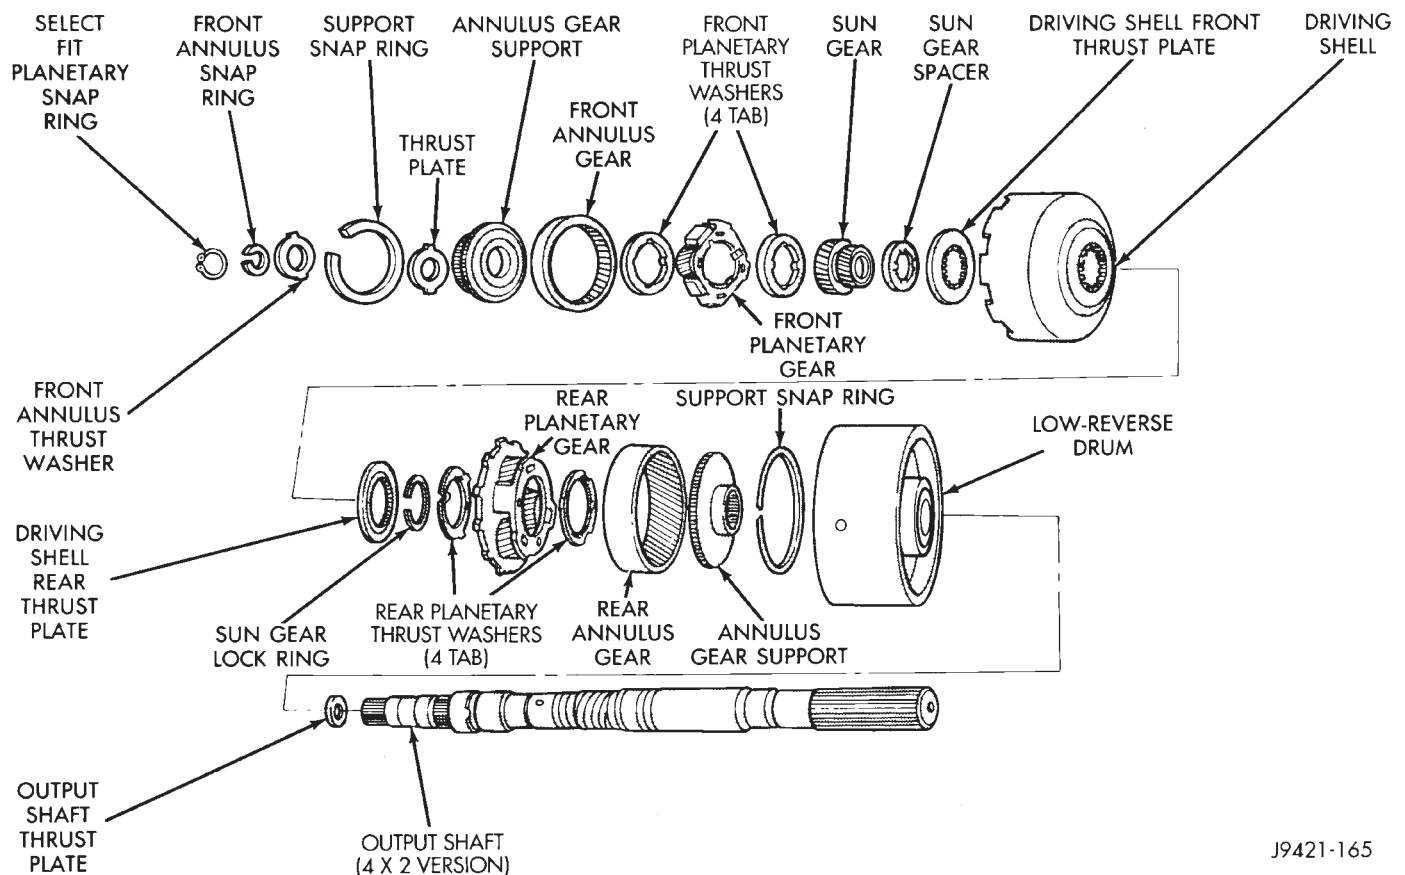

Fig. 84 Planetary Geartrain Components (30RH/32RH)
Check sun gear and driving shell condition (Fig. 84). Replace the gear if damaged or if the bushings are scored or worn. The bushings are not serviceable. Replace the driving shell if worn, cracked or damaged.
Inspect the geartrain spacers, thrust plates, snap rings, and thrust washers (Fig. 84). Replace any of these parts that are worn, distorted or damaged. Do not attempt to reuse these parts.
(3) Install rear thrust washer on rear planetary gear (Fig. 84). Use enough petroleum jelly to hold washer in place. Also be sure all four washer tabs are properly engaged in gear slots.